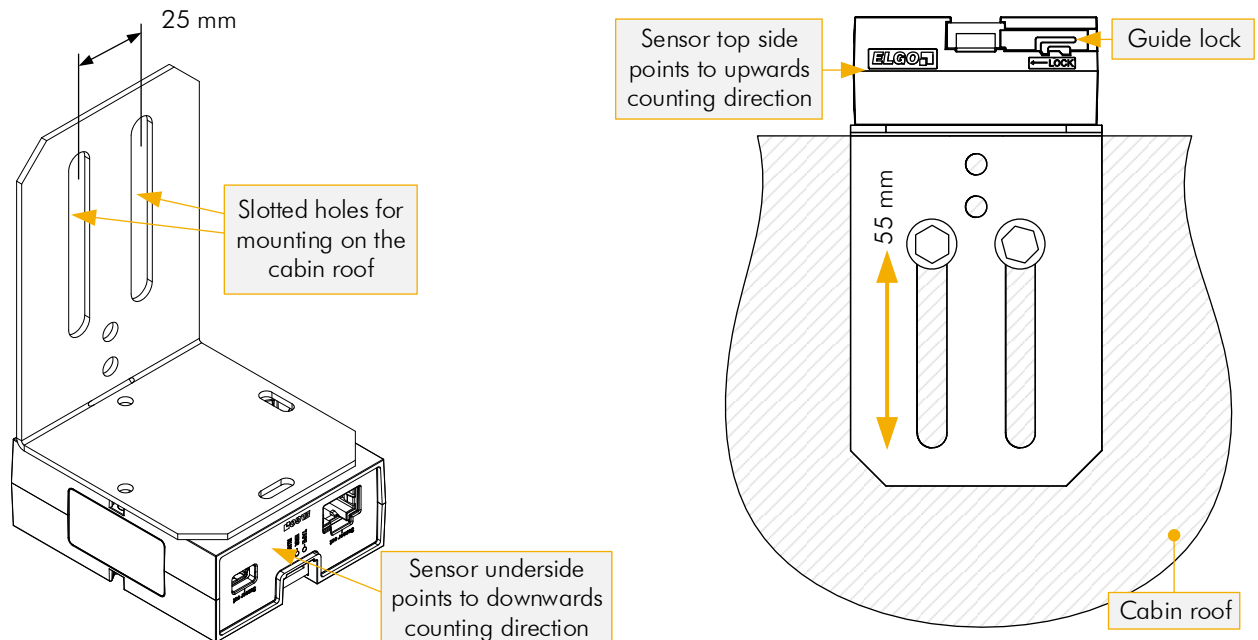

Figure 8: Mounting Angle (accessorial part)
6. Mount the sensor on the cabin. The orange guide lock must point upwards (see Figure 8). This corresponds to the upwards counting direction (see step 1. above).
4. Please make sure that the sensor side with the guide lock points upwards to the shaft head (see Figure 8 in section 9.3.2).